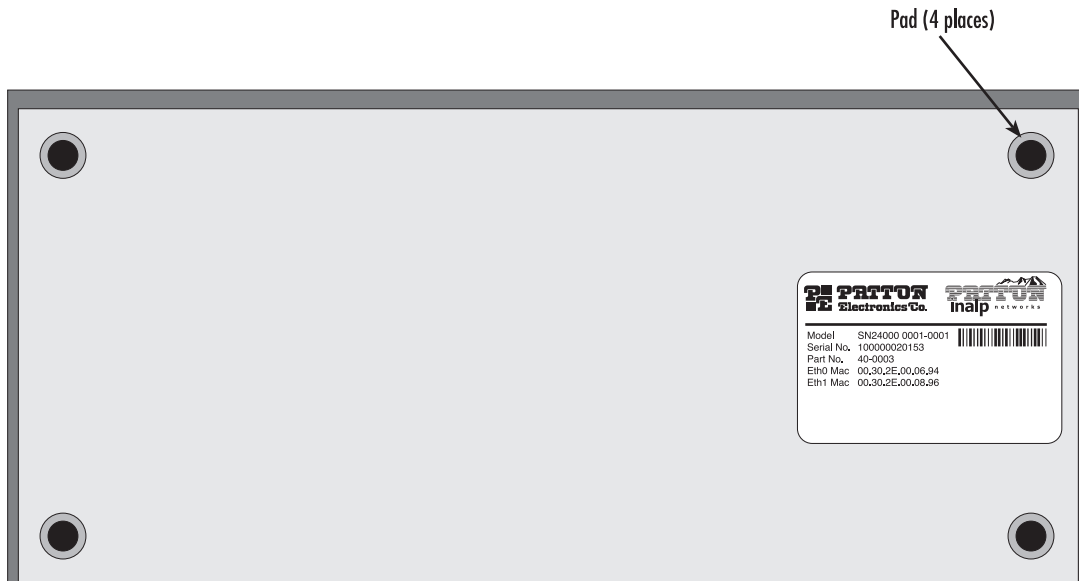

Figure 67. Pad locations
1. Remove one of the rubber pads from the adhesive strip (included in the SmartNode installation kit pack) and place it on a corner on the bottom of the SmartNode 2400 (see figure 67).